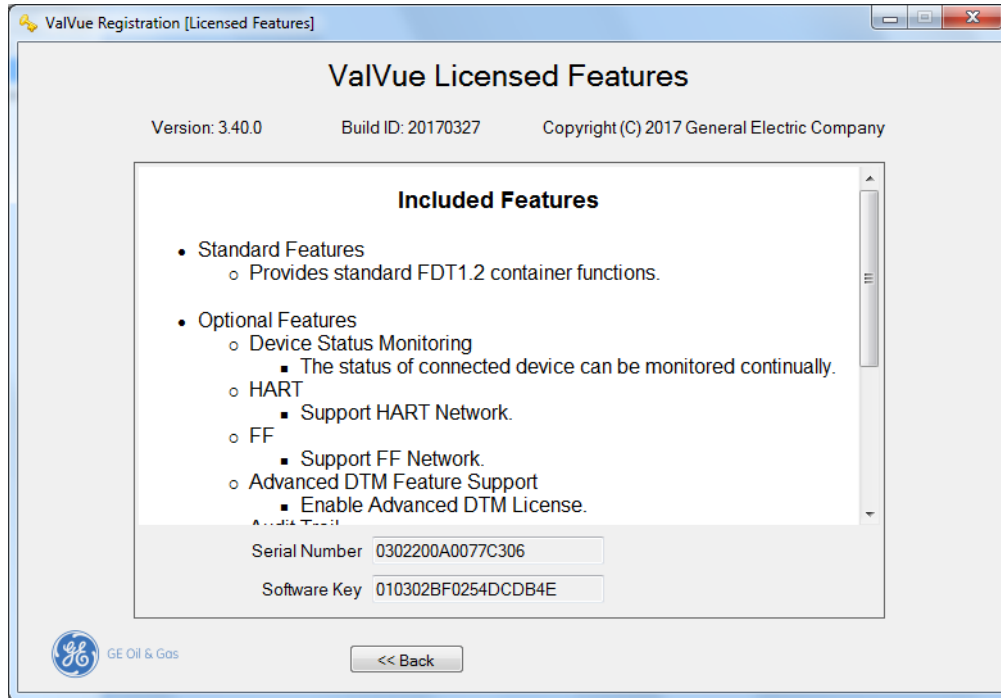

Figure 45 Included Features
1. Select **Tools > ValVue Licensing** and Figure 45 appears.